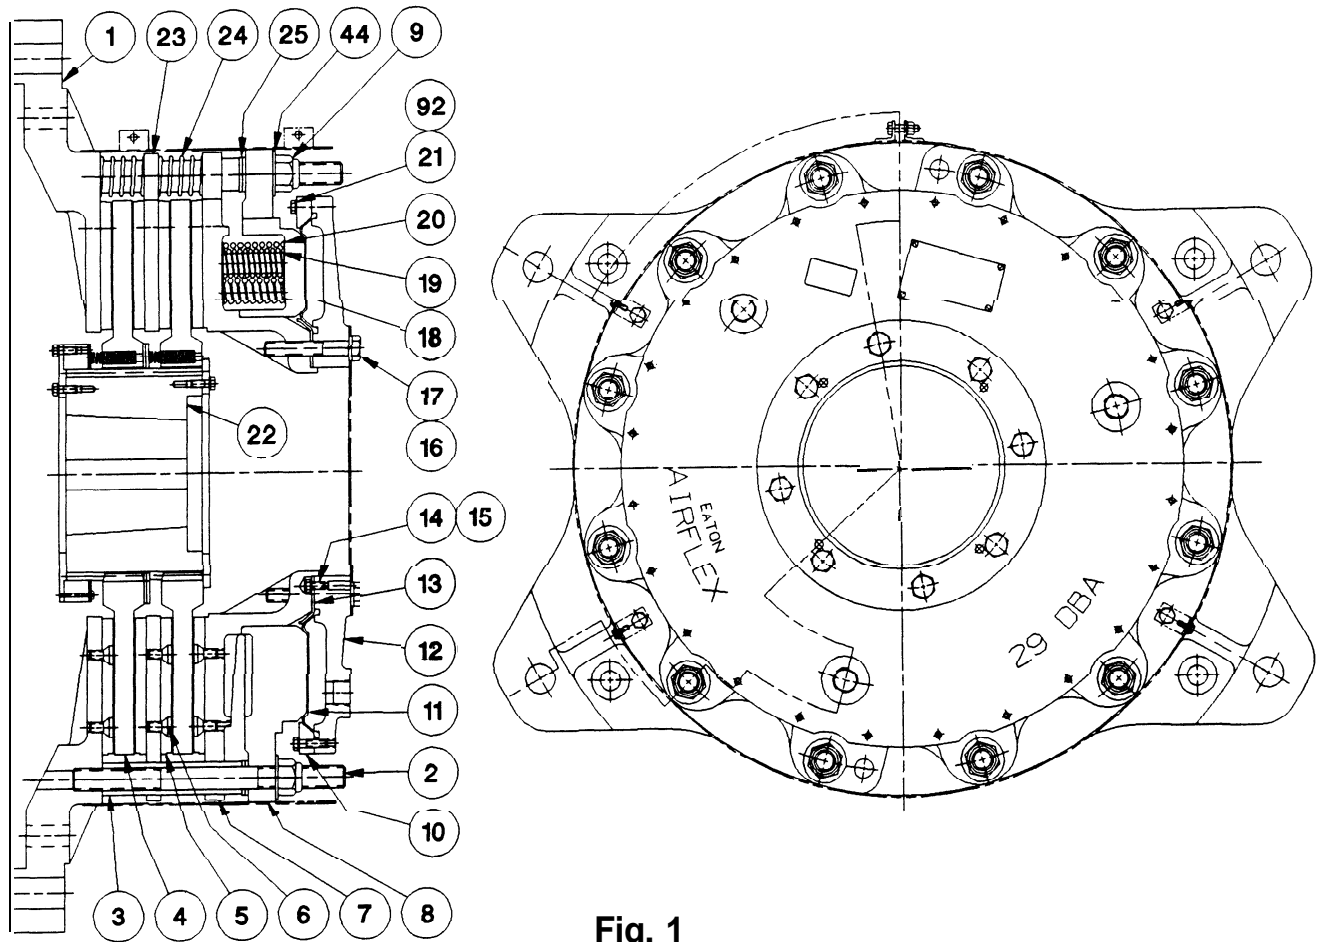

Fig. 1
- 1.2.1 Referring to Figure 1, the gear (22) is mounted to the shaft which is to be stopped and the brake assembly is attached to the motor frame.